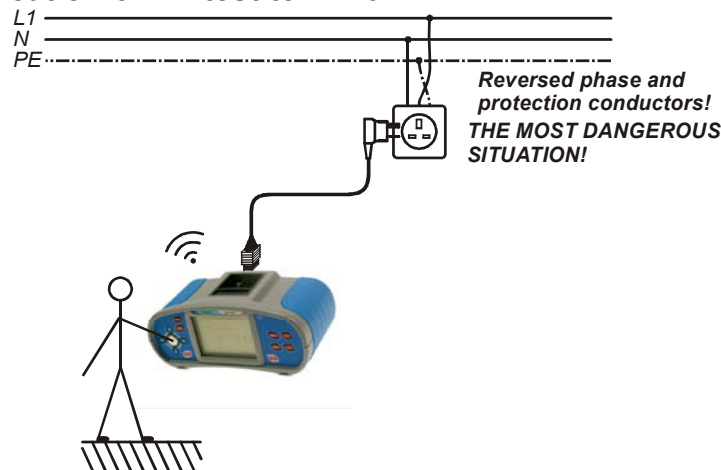

Figure 5.54: Reversed L and PE conductors (application of plug cable)
- ❑ **Connect** test leads to the tested object (see figures 5.54 and 5.55).